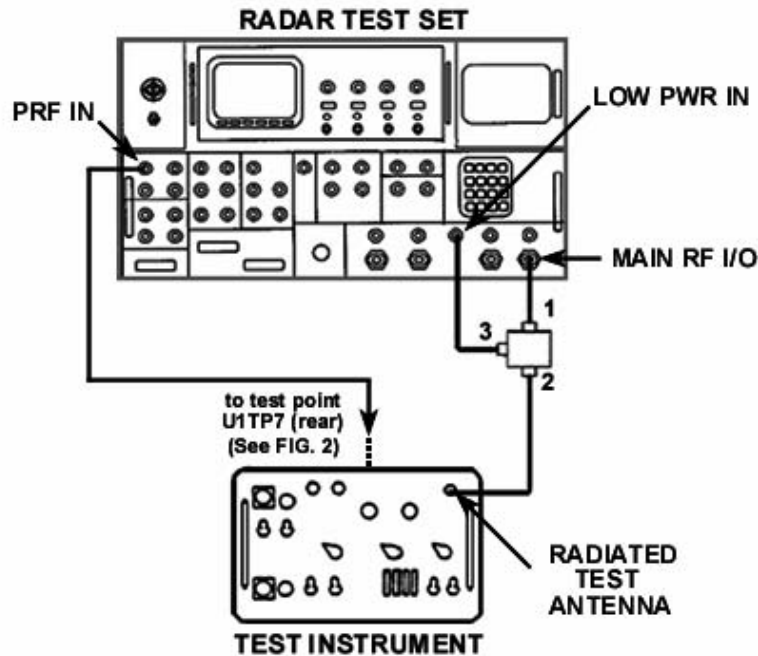

Figure 1. Receiver sensitivity – equipment setup.
- k. Connect equipment as shown in figure 1.
(3) Remove cable from TI **RADIATED TEST ANTENNA** connector (fig. 1) and connect end of cable to peak power meter sensor.
(4) On radar test set **Menu 11**, set **CW** to **ON** and measure and record power output at end of cable while cycling RF output between power settings noted in (2) above for threshold point. Average result should be -6 dBm \pm 1 dB, if not perform **b** below.
(5) Set radar test set **Menu 11**, **CW** to **OFF**. Disconnect cable from peak power sensor and reconnect to the TI **RADIATED TEST ANTENNA** connector (fig. 1).
(2) Set TI **POWER** switch to **ON**.
(3) Connect end of cable which was connected to TI **RADIATED TEST ANTENNA** connector (fig. 1) to peak power meter sensor.
(4) On radar test set **Menu 11**, set **CW** to **ON** and adjust RF power to obtain a reading of -6 dBm on peak power meter.